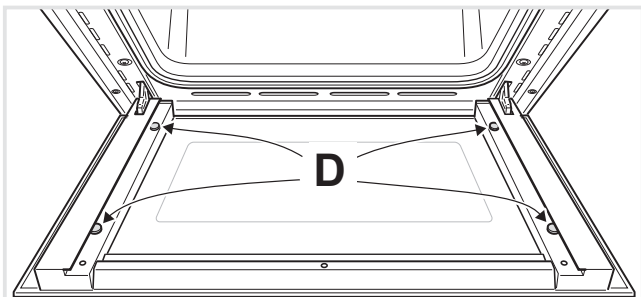

Figure 25
- Check that the four rubber pads are in place ("D" in fig. 25).